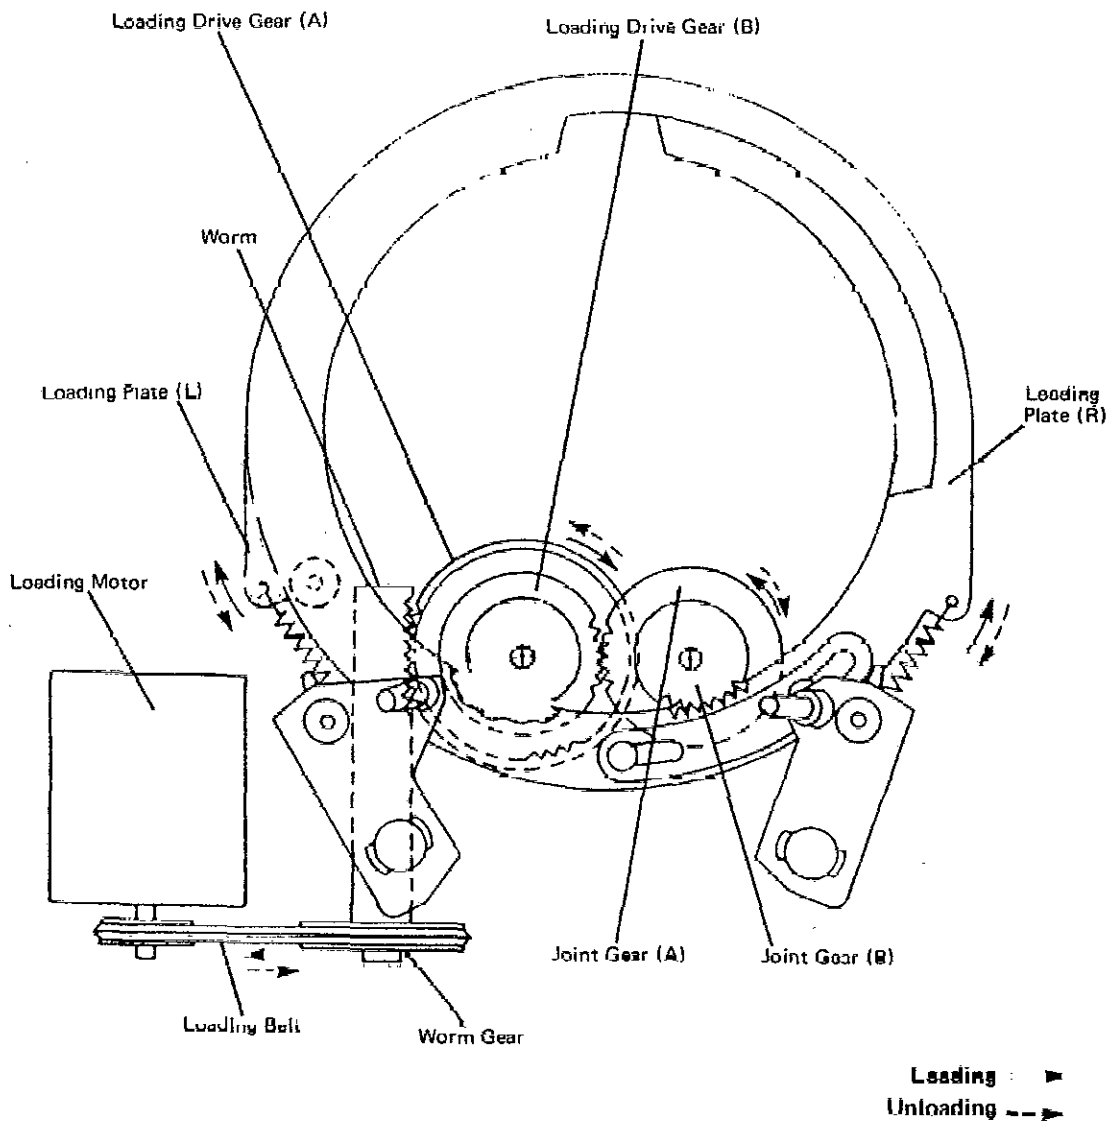

Fig. 4 Loading Plate Mechanism
1. Drives the loading plate (Fig. 4).